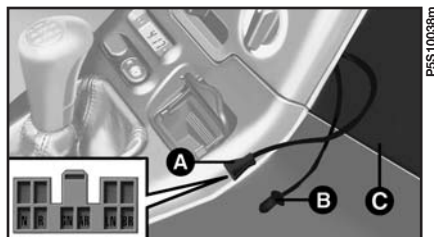

fig. 79
- wiring and ten-pin connector **A-fig. 79** (to power and connect to the dual function speaker) and connection to dual function aerial **B** located in the front part of the central tunnel. To access the components, remove the screws and flap **C**.